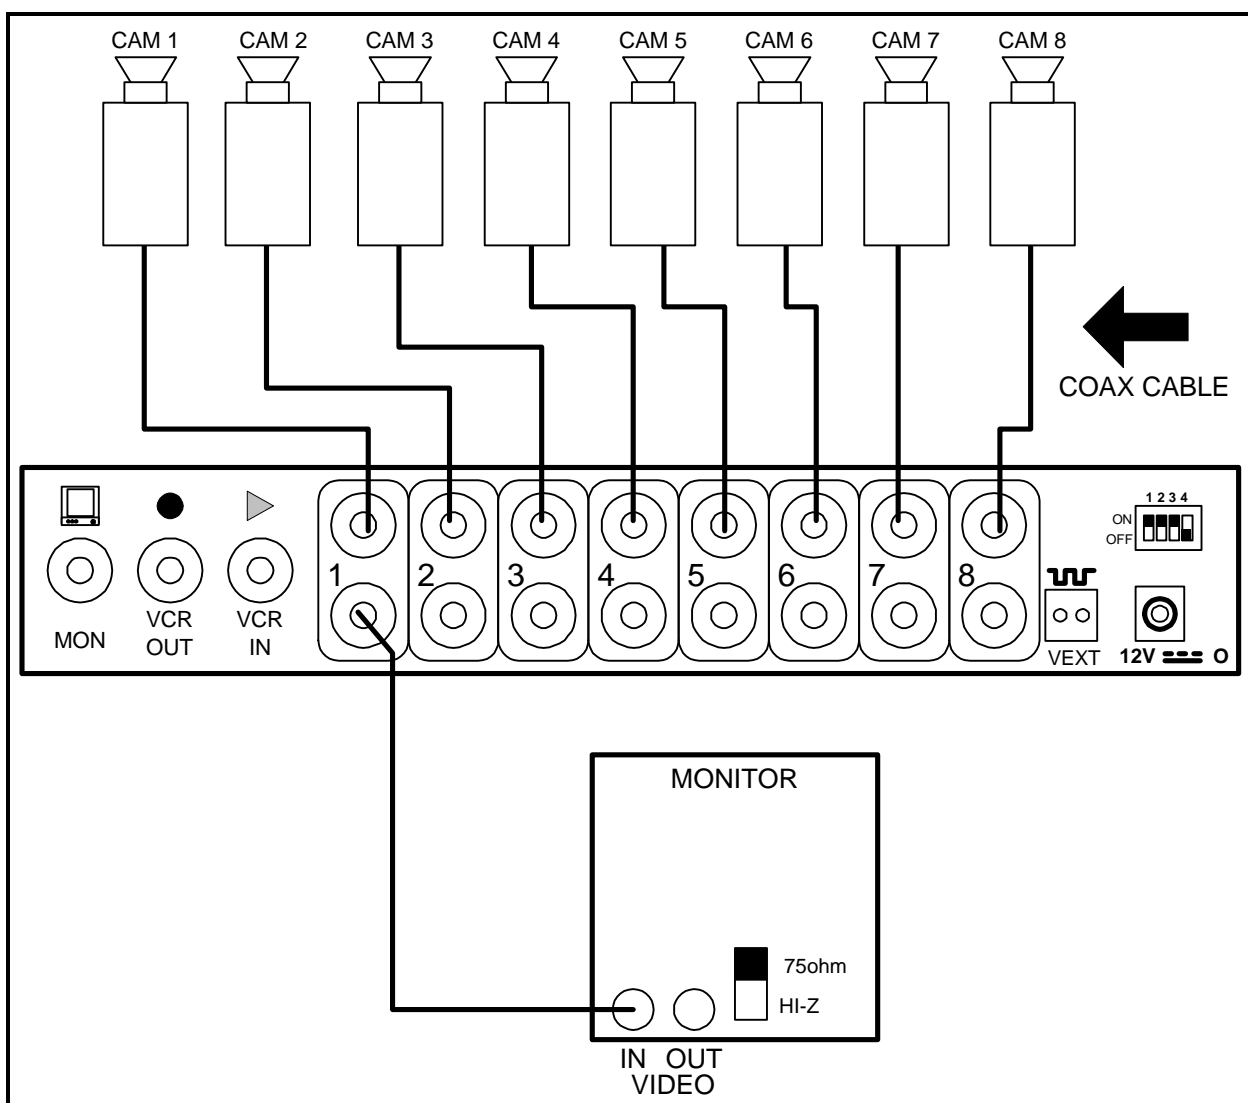

**Figure 1-1.** Camera Connections - JMMS8
- 1.1 On the rear panel, connect cameras to the top video inputs of the connector pair for each camera to be installed, using input 1 first. When the camera is not looping through to another device (i.e. monitor) then the unit will automatically terminate the video signal with a 75 ohm load. See Figure 1-1.